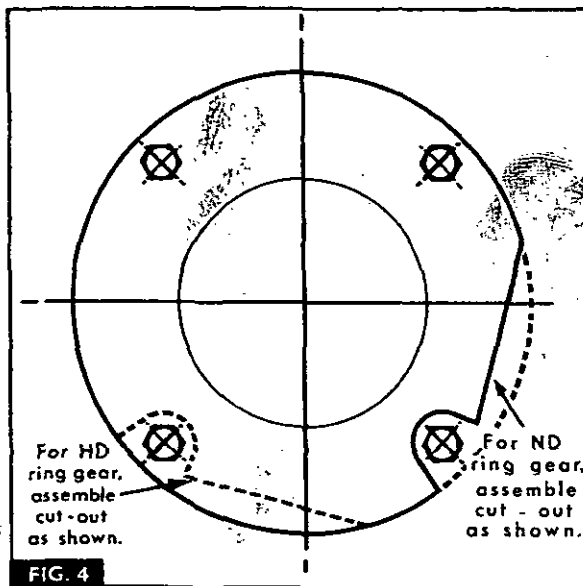

FIG. 4
34. Rotate the rod to bring the engagement dog to the top, then fit the locking pin and locking wire to the selector fork (88).
35. Slide the interlock cross peg (81) into the third speed selector rod.
36. Refit the first/reverse and the second/fourth gear selector rods and forks (86, 87, 91 and 92), engaging the forks in the gears. Refit the locking pegs (85) and the locking wires.
37. Figure 4. Refit the HIGH/LOW selector rod assembly (93 and 95) engaging the selector fork (95) in the coupler (39) and locating the coupler in the end of the planetary pinion carrier (36).
1. Refit the backplate (42) and the shims (41) to the dowels (40) on the ring gear (43), then locate the dowels in the holes in the transmission case. Fit the thrust washers (44 and 46) to the planetary pinion carrier (45) and locate the carrier in the ring gear. Refit the cover plate (47), as shown in Fig 4. Fit the four bolts (49), and tighten them progressively and evenly to a torque of 4.9 kg-m (35 lb-ft).
2. Refit the coupler (50) and HIGH/LOW shifter fork (7), then refit the locking peg (8) and locking wire.